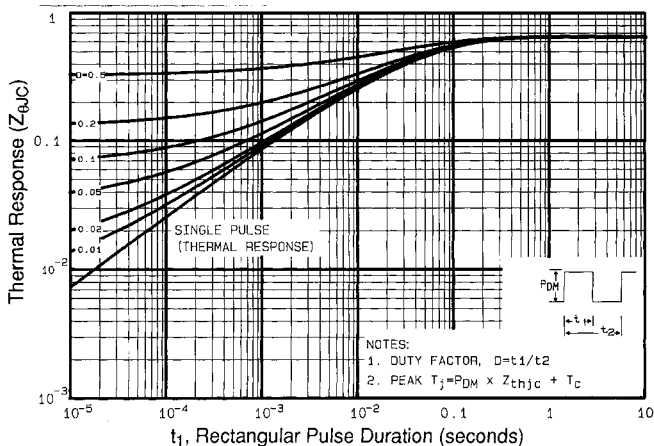

Fig 11. Maximum Effective Transient Thermal Impedance, Junction-to-Case
- ① Repetitive rating; pulse width limited by max. junction temperature (See Figure 11)
- ② $V_{DD}=50V$, starting $T_J=25^\circ\text{C}$, $L=7.0mH$